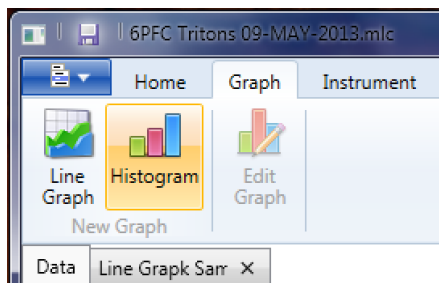

Figure 57
- 1) Once the Data Window is active, open the Graph menu and select the "**Histogram**" button (Figure 57).